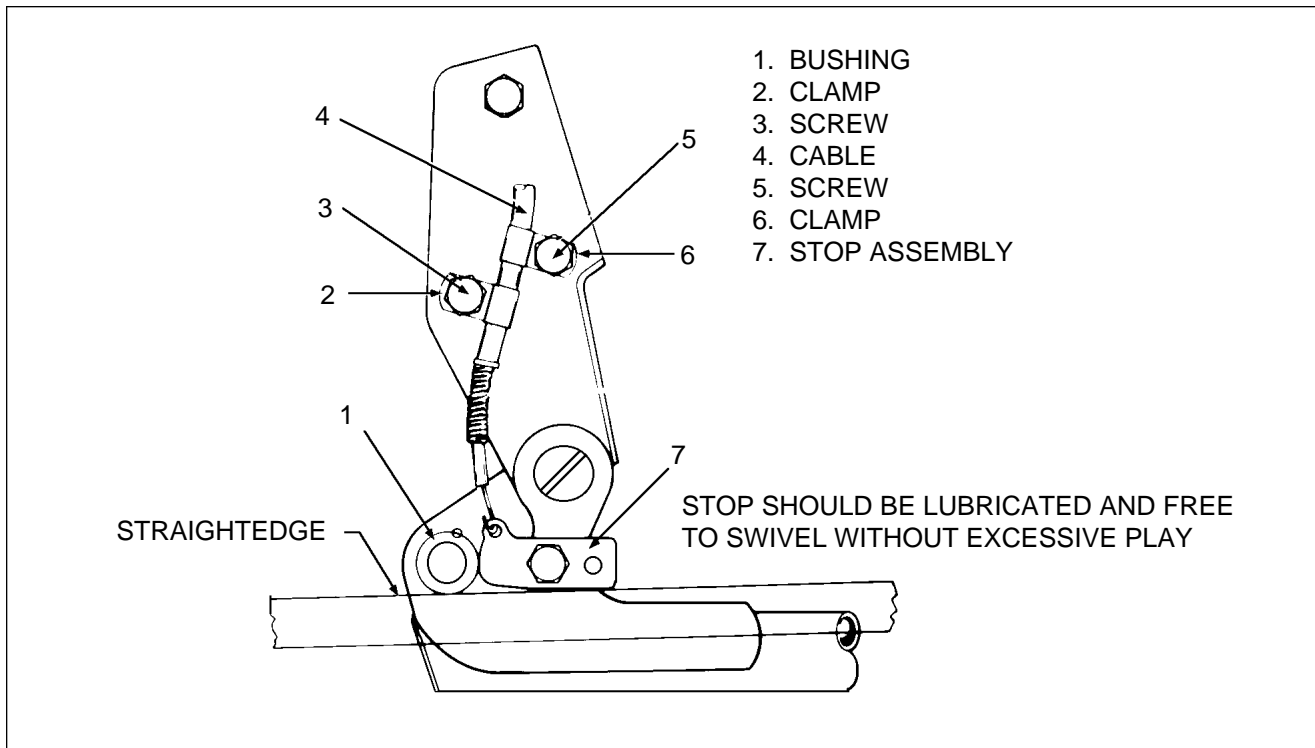

Figure 25-1. Seat Back Lock
A. RIGGING INSTRUCTIONS - SEAT BACK LOCK AND RELEASE (Refer to figure 25-1.)